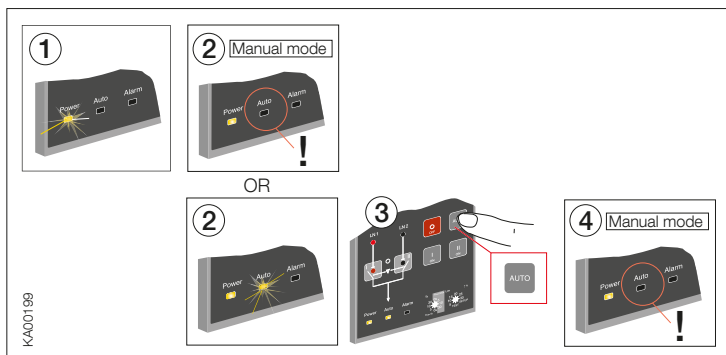

Figure 6.7 Selecting the automatic control units OMD200 and OMD300 to Manual Mode
1. Set device to **MANUAL** mode according the Figure 6.7.